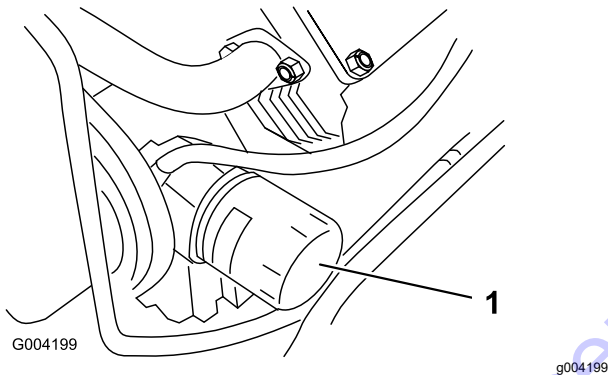

Figure 38
4. Remove the old filter (Figure 38) and wipe the surface of the filter adapter gasket.